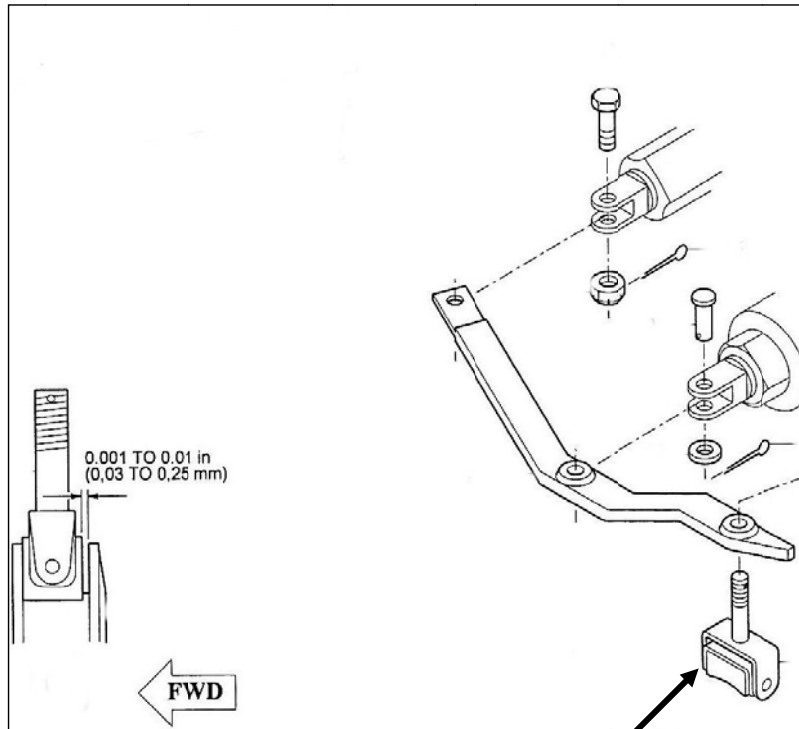

Figure 01
3. Remove reversing lever with carbon block. Discard the cotter pins. See Figure 01.